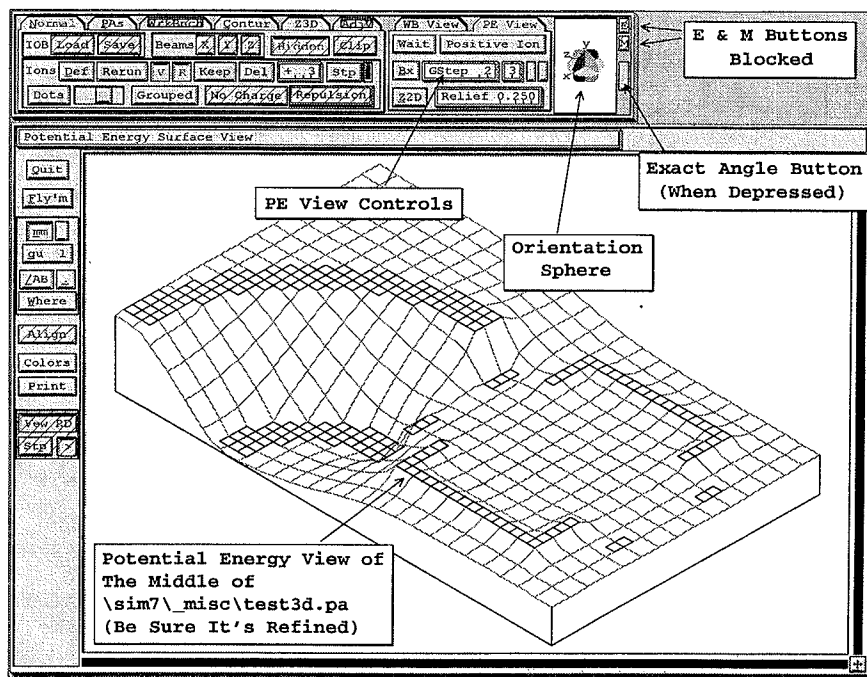

Figure 7-16 Potential energy view of an inside plane (*near the middle*) of \sim7_misc\test3d.pa
Potential Energy (PE) views are accessed by clicking on the PE View Tab to access the PE View Control Screen (*displayed in Figure 7-16 below*).